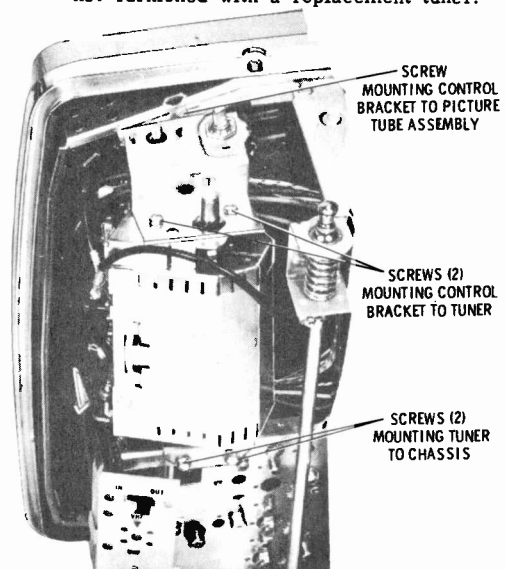

FIGURE 34. TUNER REMOVAL
Unsolder all connections to tuner. Remove all five (5) screws shown in Figure 34. Remove the rear tuner mounting bracket by removing the two (2) mounting screws.